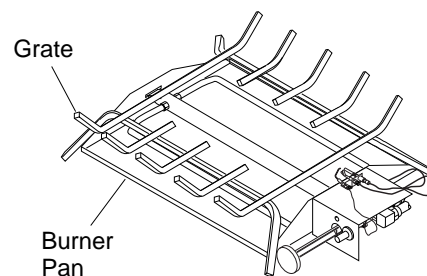

Figure 17 - Installing Grate (Pan Material Not Shown)
- Place the grate over the burner pan. The grate should "lock" into place over the corners of the pan (see Figure 17).